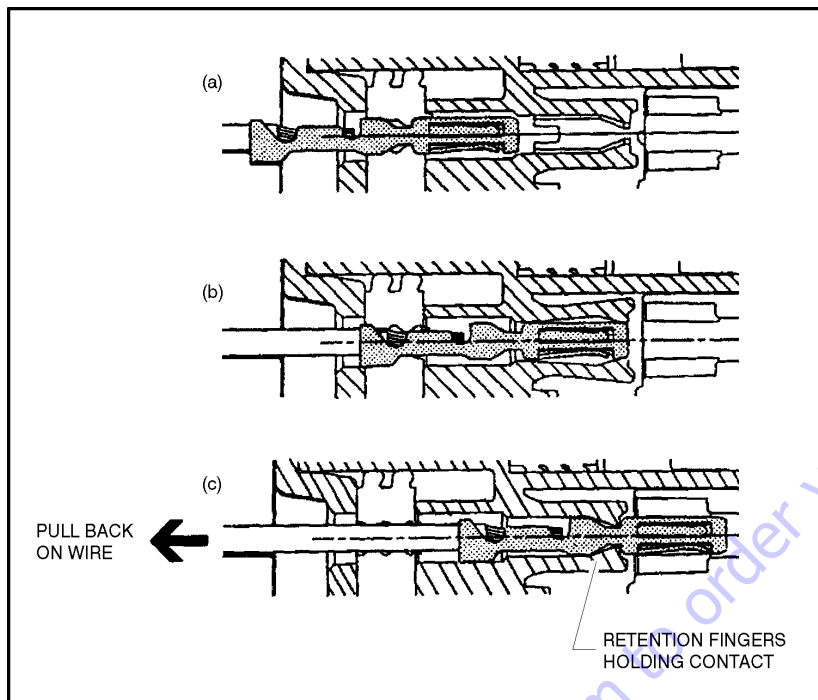

Figure 8-3. Connector Assembly Figure 2
1. To insert a contact, push it straight into the appropriate circuit cavity as far as it will go see Figure 8-3.
2. Pull back on the contact wire with a force of 1 or 2 lb to be sure the retention fingers are holding the contact see Figure 8-3.